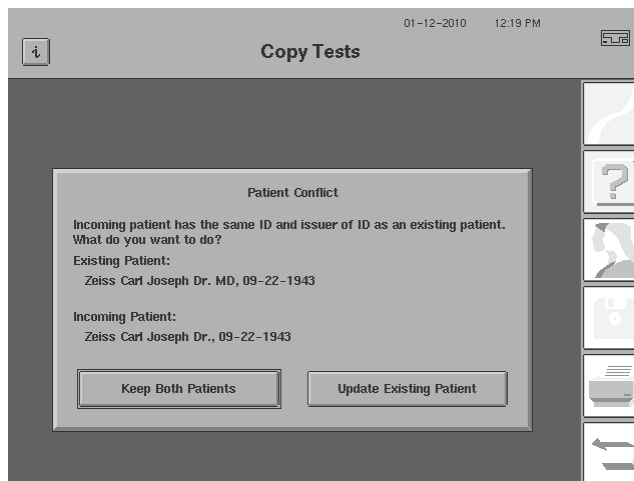

Figure 14.70 Patient Conflict Dialog
- If a patient does not exist with this new Patient ID/Issuer of ID and the database is not currently being upgraded, a Patient Conflict dialog appears asking if you want to keep both patients or update the existing patient (Figure 14.70). If the operator selects “Keep Both Patients”, then the incoming patient will be saved with the new Patient ID/Issuer of ID. If the operator selects “Update Existing Patient”, then the existing patient will be updated with the incoming patient information—the imported patient’s exams merges with the existing patient, and the name and date of birth of the existing patient will be replaced by the name and date of birth of the imported patient.